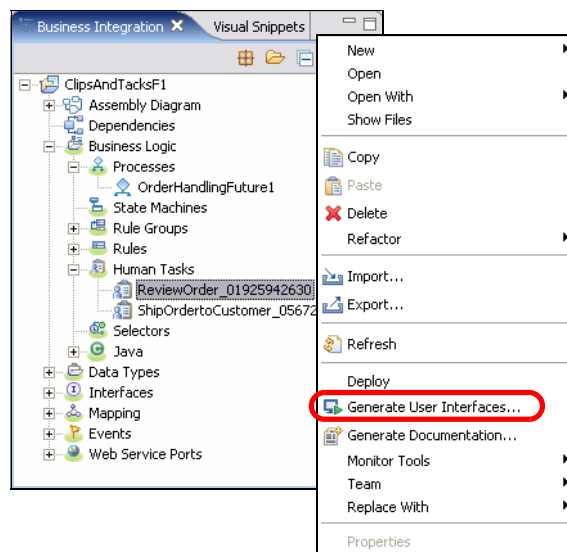

Figure 10-66 Generating a human task user interface
- ▶ Select one of the human tasks that are available in the project tree view and *Generate User Interfaces* (Figure 10-66).